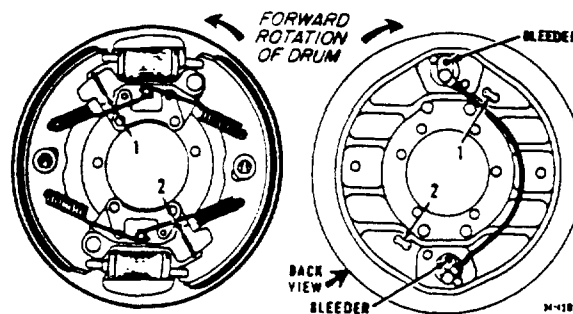

Figure 13-31. Outboard and Inboard Views of Left Rear "FR2" Brake
Adjustment. See Figure 13-31
2. Insert clicker wrench or screwdriver into slot (1) or (2), see Figure 13-31, to contact star wheel. Rotate wheel toward axle to decrease clearance until lining drags on drum.